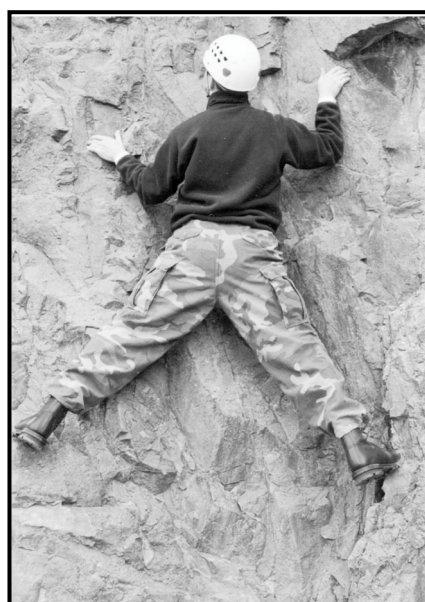

Figure 6-15. Stemming on a face.
(5) ***Stemming.*** When the feet work in opposition from a relatively wide stance, the maneuver is known as stemming. The stemming technique can sometimes be used on faces, as well as in a dihedral in the absence of solid handholds for the lieback (Figure 6-15).